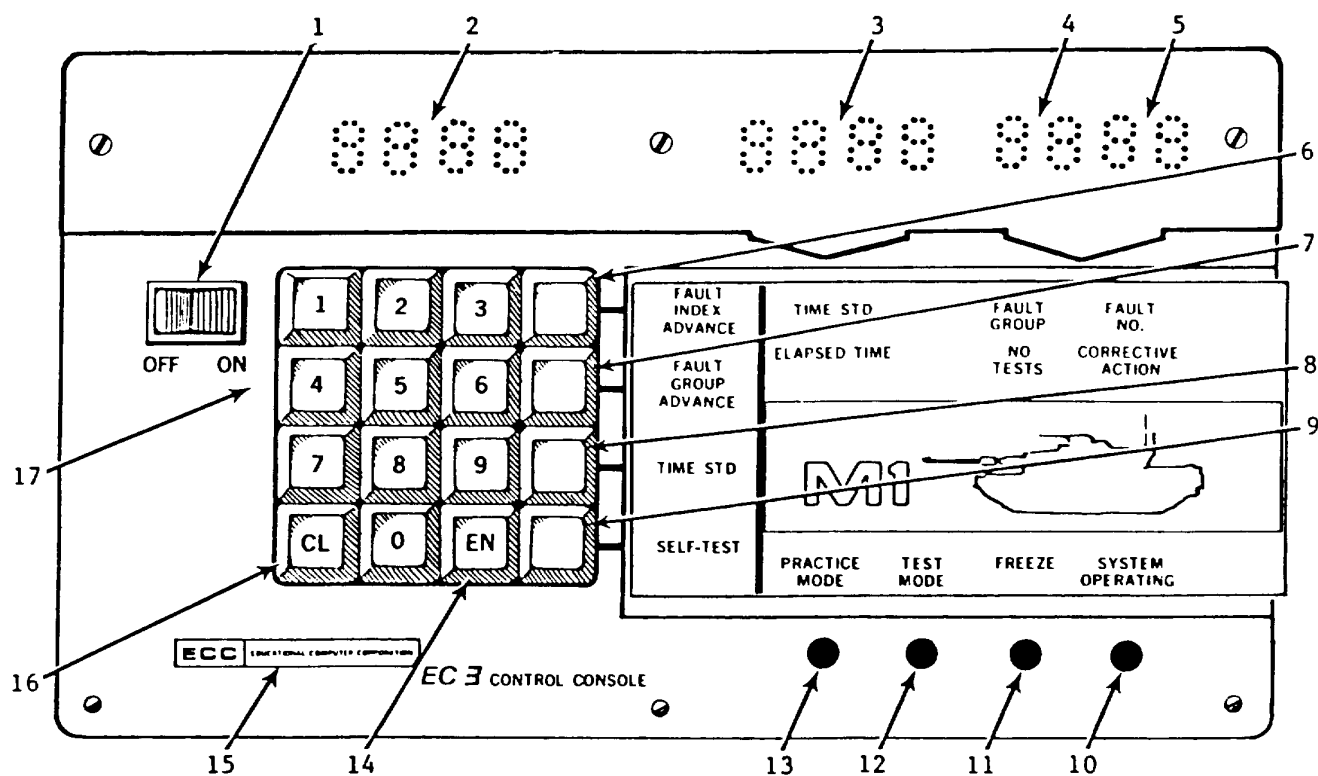

Figure 2-1. Control Console Controls and Indicators
a. Control Console. The controls and indicators shown on figure 2-1 are listed in item number order in table 2-1. The description column contains a physical description of each item shown and the function column describes the operation of each item.
(1) PERFORM OPERATIONAL CHECK (V7, fig. FO-1). When the panel activates, this pushbutton switch/lamp begins flashing. Pressing the switch makes it go out and begins the troubleshooting exercise. The ELAPSED TIME (3, fig. 2-1) indicator starts and, if a malfunction exists, the system exhibits the malfunction.
(2) Student malfunction controls.